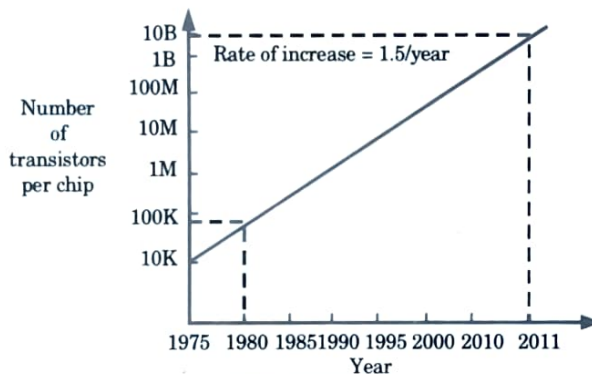

Fig. 1.7.1.
7. Fig. 1.7.1 shows the level of integration versus time for memory chips.